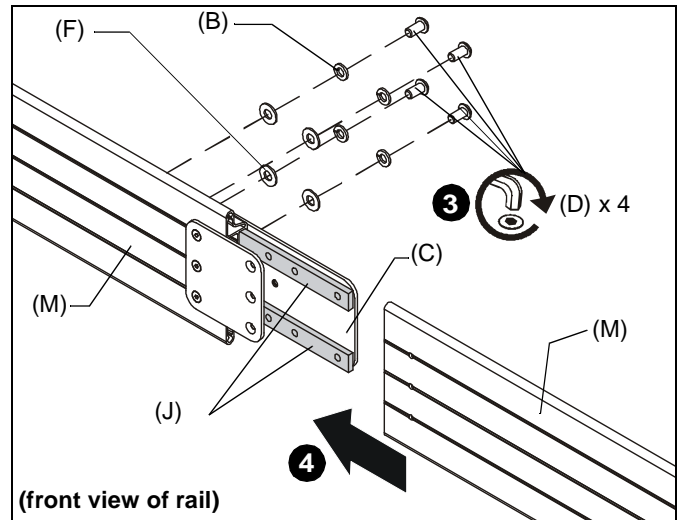

Figure 3
3. Additionally fasten connector plate (C) using four 5/16 x 5/8" button head cap screws (D), four 5/16" split washers (B), and four friction washers (F). (See Figure 3)
4. Slide second section of mounting rail (M) over tie bars (J) and bring it flush to first section of mounting rail. (See Figure 3)